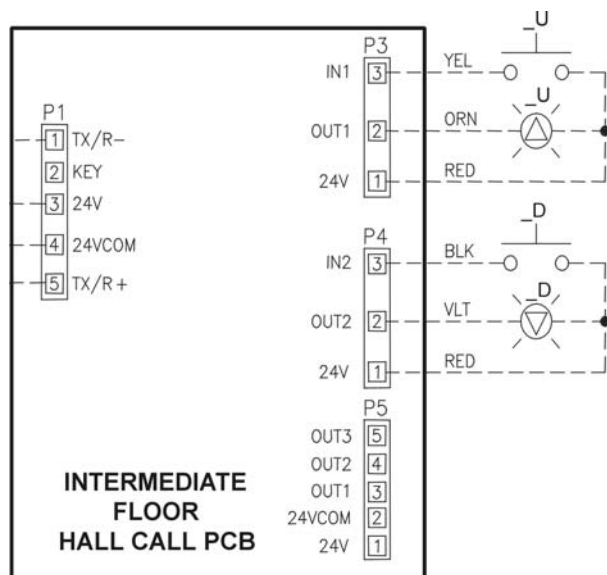

Figure 1-30
- Connect the Hall Push Button cable(s) to the P3 and/or P4 (3 pin) connector(s) on the HPU board. [See Figure 1-30.]